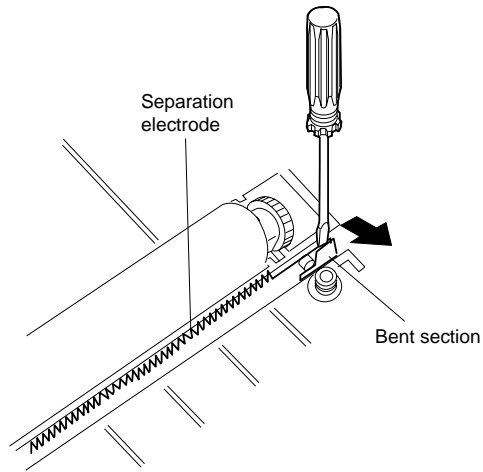

Fig. 38
- When pulling out the grounding section of separation electrode lastly, the bent section of electrode is caught by the lower frame. Therefore, use a screwdriver (-) to hold the electrode section of separation electrode so as not to be caught as follows (Fig. 38).